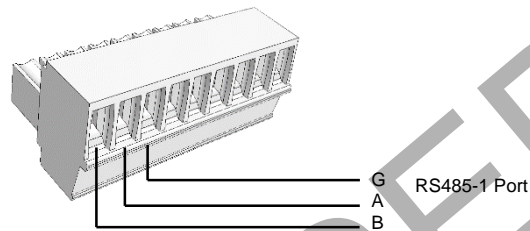

Figure 3: RS485/RS232 terminal block
6. Loosen the screws of pins **B**, **A** and **G** of the RS485-1 port, as shown in Figure 3 below: